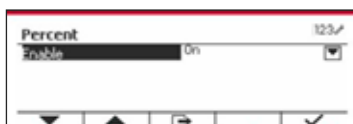

Figure 74
4. Select list item and press the softkey corresponding to the \checkmark icon to change setting. (See Figure 74)